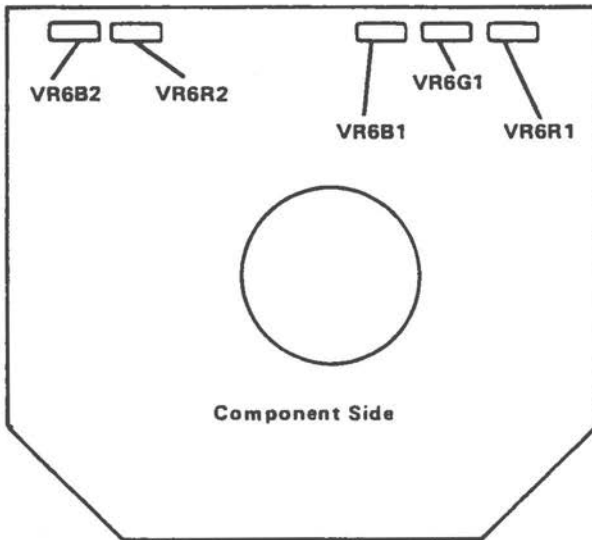

Figure 7-6 Video Adapter Board Adjustments
1. To enter the Color Alignment Utility proceed as previously described, then select "3", "4" and <F4> to obtain an all white picture to begin your adjustments (refer to Figure 7-6).
5. Select "3", "4" and <F4> from the Alignment Utility to obtain an all white picture to begin your adjustments (refer to Figure 7-6).
1. To obtain a violet grid pattern, select "3", "4" and <F4> in the Color Alignment Utility and refer to Figure 7-6.